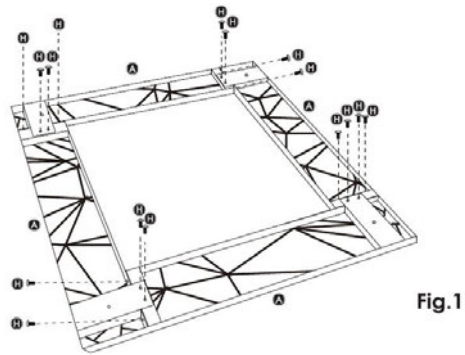

Fig.1
**Step 1)** Place parts on a smooth even surface,Fix 4 pieces Top Frame (A) by using Bolt (H) into Square frame (View Fig.1).